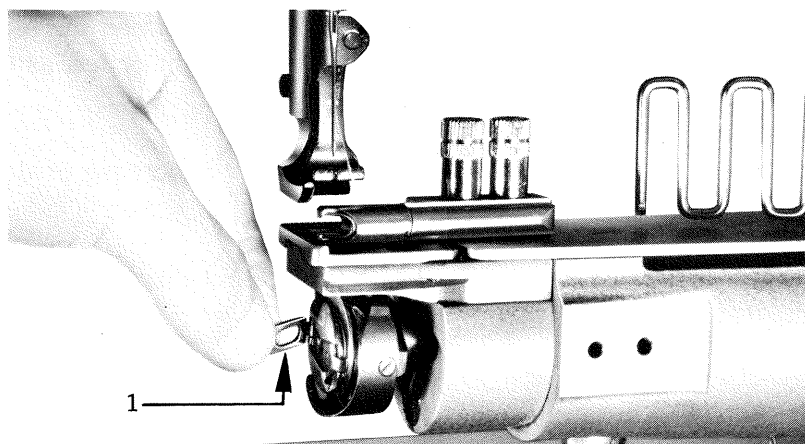

Fig. 5
INSERTING AND REMOVING BOBBIN (Fig. 5 and 6)
2. Pull up the latch (1, Fig. 5) and draw out the bobbin from the bobbin case.
5. Draw out about 5 cm of the end of thread, pull up the latch (1, Fig. 5) keeping the slot of the bobbin case faces upper side. And fit the bobbin case into the hook as deeply as it will go, and push down the latch securely.